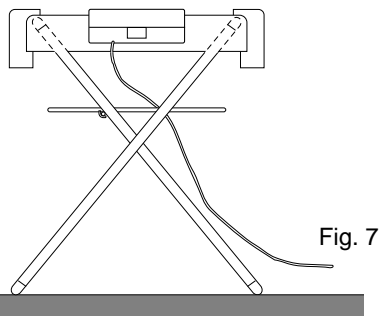

Fig. 7
- place the grill itself on the top of the support stand (as shown in fig. 7).